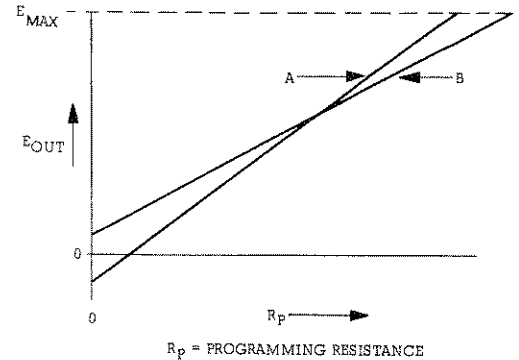
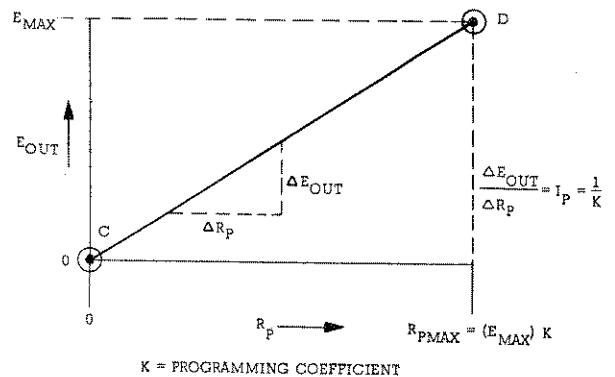

Figure 3-6. Unaligned Resistance Programming Characteristics
Figure 3-7. Aligned Resistance Programming Transfer Function
3-37 Figure 3-6 shows two resistance programming characteristics which are typical (although somewhat exaggerated) of the performance (without programming alignment). The output voltage with zero programming always will differ from zero, being either positive (B) or negative (A), and the maximum output voltage will be achieved with a value of programming resistance not predicted by the programming coefficient.
3-38 Notice, however, that even with an unaligned instrument the typical characteristics of A and B are extremely linear — that is, there is no curvature. To convert either of the characteristics of Figure 3-6 to the desired programming characteristic of Figure 3-7, it is necessary to adjust both the zero crossing and the angle of slope of the programming characteristic.